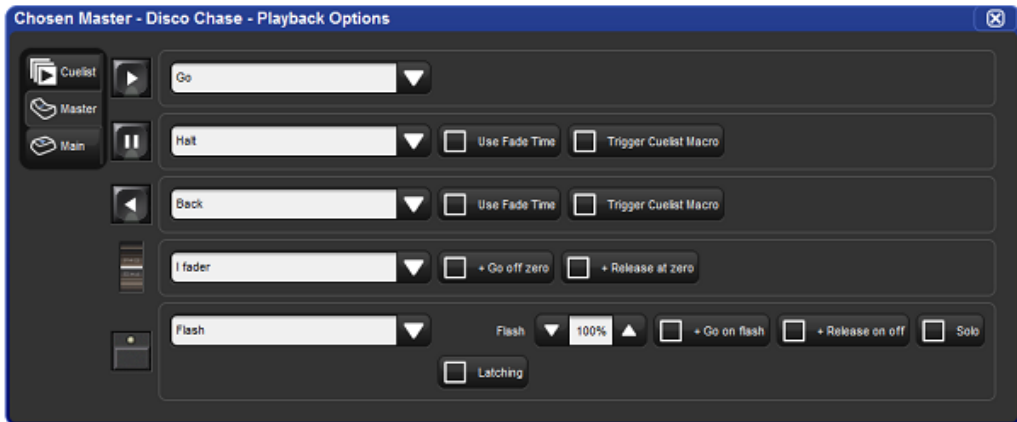
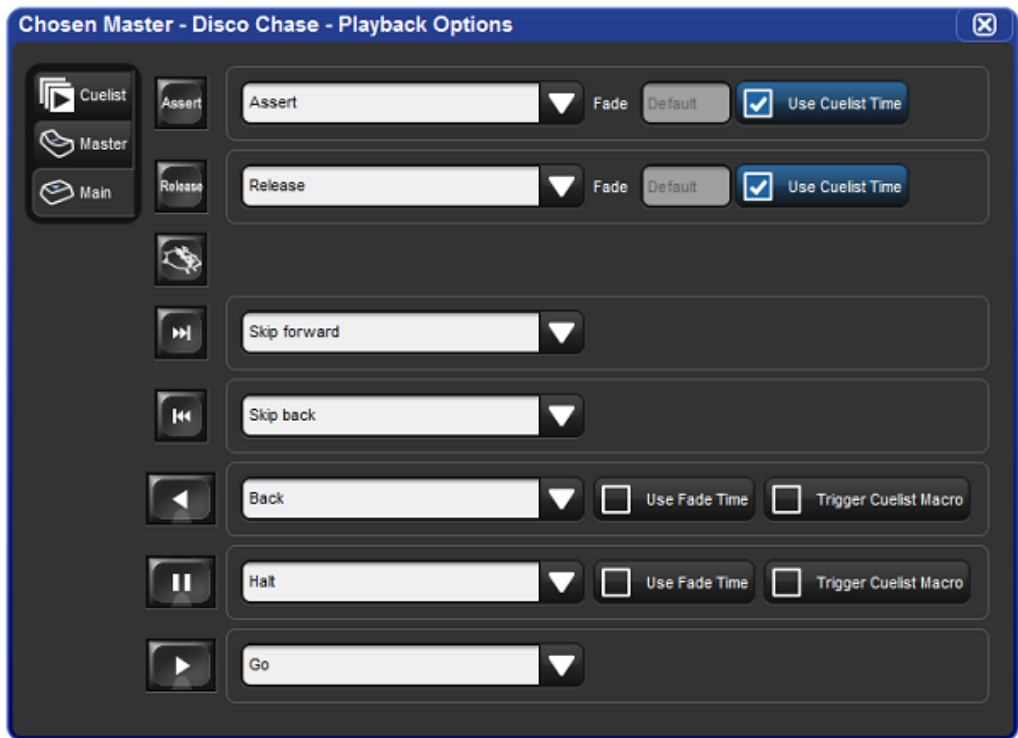

Figure 17.10. The Master pane of the CueList Options window
Figure 17.11. The Main Controls pane of the CueList Options window
3. Under Controls, select the Master or Main Controls pane; see *Figure 17.10*, "The Master pane of the Cuelist Options window" and *Figure 17.11*, "The Main Controls pane of the Cuelist Options window".